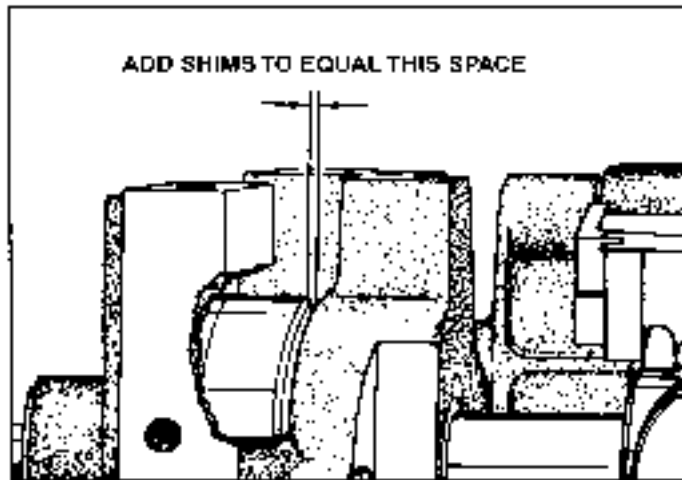

Fig 3
3) Measure the distance between the right side of the head of the mainshaft and the left side of the machine bed and add shims to equal this measurement. (fig 3) This will help to keep the shafts, take-up and connecting rods in their proper position.
4) Holding the shafts in position with the shims as indicated in Fig 3, move the pump assembly **C** against the inside of the bearing housing **D** and tighten the 2 allen screws in the pump hub. Remove shims added in Fig 3.